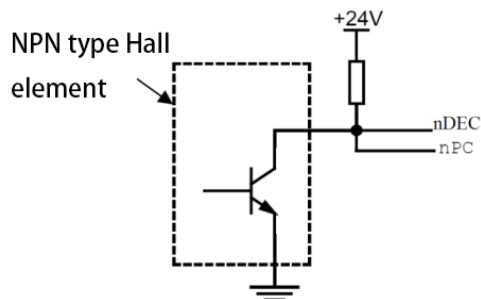

Figure 2-9 Connection with an NPN type Hall element
b) The connection method when using an NPN type Hall element to do both deceleration signal and zero signal is shown in Figure 2-9 below: